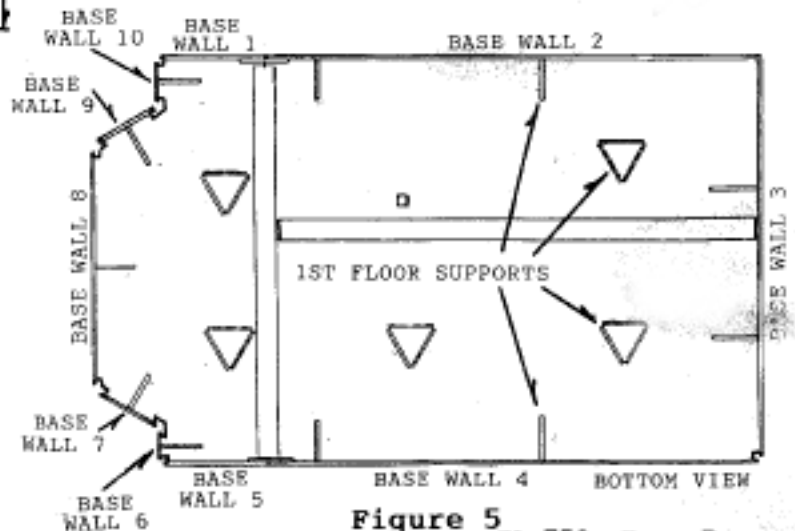

Figure 5
5. Glue base walls and base floor supports to the base floor assembly as in Figure 5.
5. Add wallpaper to appropriate wall panels. Refer to Figure 5 for back view wall layout. It will help conceal seams in wall paper if you paint the wall the same color as the background of the wallpaper where the seams will occur.